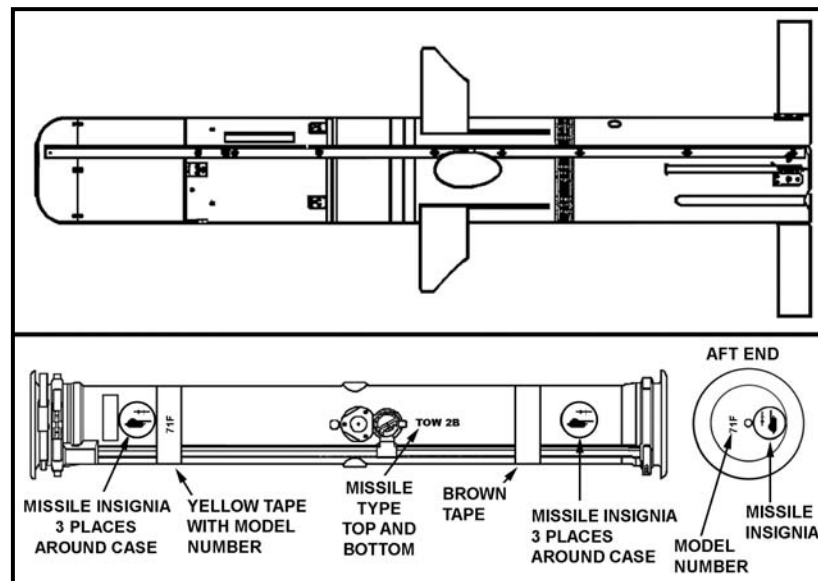

Figure 1-21. TOW 2B missile and identification.
e. **TOW 2B 9BGM-71F and 71F-1-Series)** (Figure 1-21). With the advent of multiple layers of reactive armor on target vehicles, the TOW 2B was developed to attack the target from the top (fly-over-shoot-down [FOSD]). The TOW 2B contains two sensors; one identifies the iron in the armored vehicle, and the other optically determines when the target is below the missile. Both sensors are required to differentiate the target from the ground the missile is flying over.
(1) The TOW 2B contains two warheads that detonate downward when the target is identified by both sensors. This causes the two penetrators to enter the target from the top, usually through the turret where the armor is not as strong. The missile case is identified as containing a TOW 2B with the visual missile insignia, which shows the missile flying over the target.
(2) The nose of the TOW 2B missile is also an ogive configuration (crush switch), which allows the warheads to detonate in the direct attack mode. The TOW 2B has a range of 3,750 meters, and it is not available with a practice warhead.